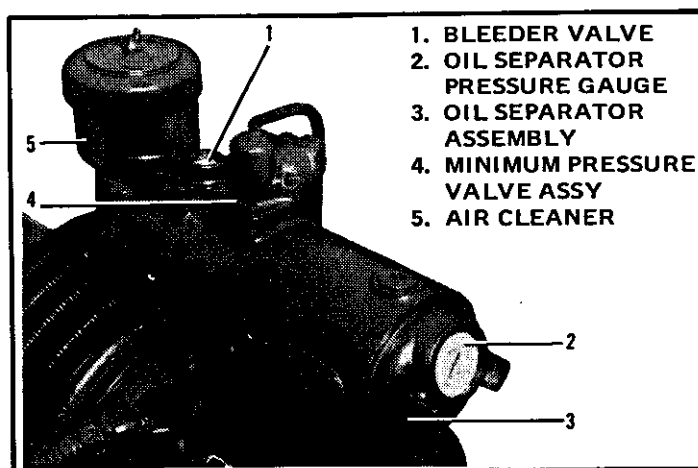

Figure 4-3. Compressor Oil Separator Assembly
(11) Oil separator bleeder valve (1, figure 4-3). The bleeder valve removes accumulated oil from the separator and returns the oil to the compressor via the air intake. The accumulated oil results from the air passing through the separator felts. A sight glass is provided for visual check of oil removal. Under normal conditions, oil will flow past sight glass with a percolating action when compressor is operating under full load. If bleeder valve is full of oil and no action is indicated, oil is not being removed. No action of the oil indicates the valve or separator felts are clogged.
(12) Oil separator pressure gauge (2, figure 4-3). This gauge indicates the air pressure within the compressor.